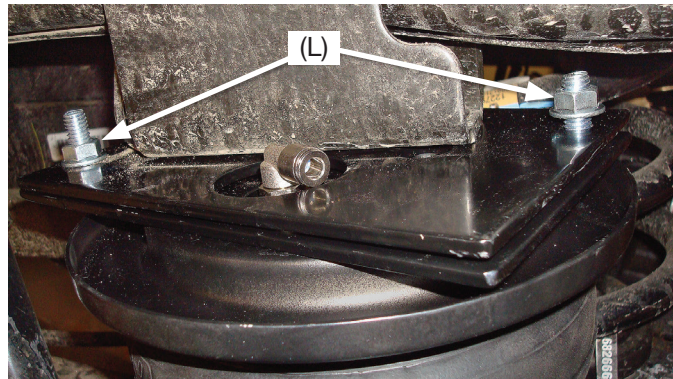

Fig. 16
2. Carefully position the upper air spring brackets, making sure that the carriage bolts and fittings line up with the holes in the frame brackets (Fig. 16). If necessary, raise the axle so that the brackets come together, making sure the fittings and the carriage bolts go through the holes and do not bind.
3. Install the 3/8"-16 serrated flange lock nuts (L) onto the upper carriage bolts and torque to 16 lb.-ft. (22Nm) (Fig. 16).